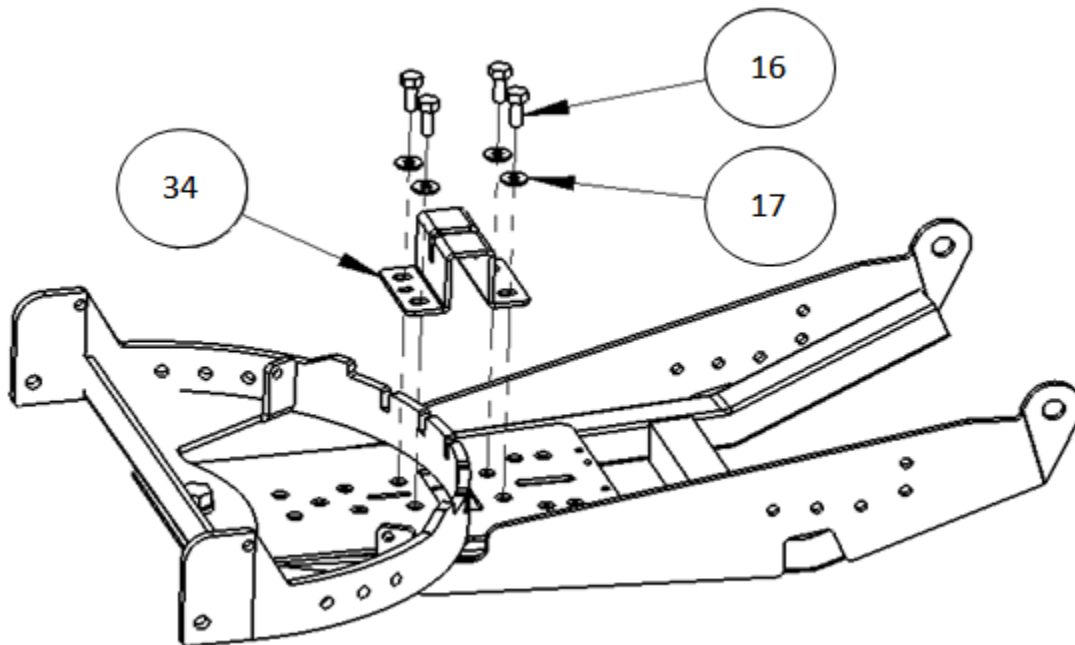

Figure 7
- 7) Attach the Pivot Lever Support Bracket (#34) to the Lift Arm Assembly via the 3/8" Bolts (#16) and Washers (#17) included in your kit **(Figure 7)**.